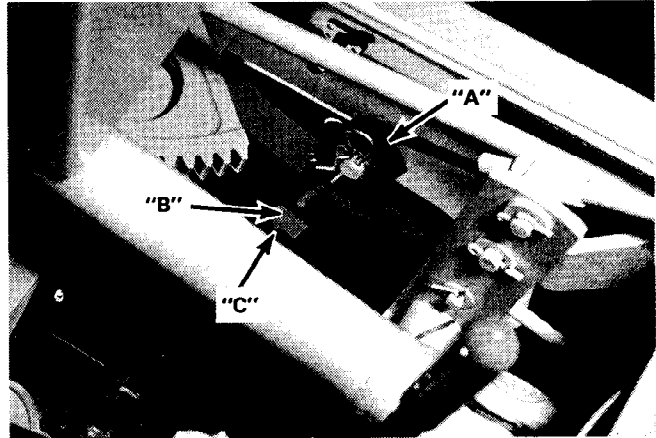

FIGURE 6
7. Insert offset section on lift link over half inch pins (integral to tractor lift arms), with the flush side towards inside of mower, and secure with flat washer and spring cotter. Install free floating stud of lift link into mower lift arms and secure with flat washer and spring cotter. See "A" Figure 6.
8. Start engine; place lift lever in FLOAT position; observe position of stop nuts, and adjust so both nuts are directly under mower lift link studs. See "B" and "C" Figure 6. This adjustment will give maximum below ground level float. Should a higher maximum lift be desired, turn both stop nuts the same number of turns up on the studs until desired height is obtained.
If mower needs levelling from side to side, adjust by turning nut "C" Figure 6 either up or down on lift studs "A" Figure 6.